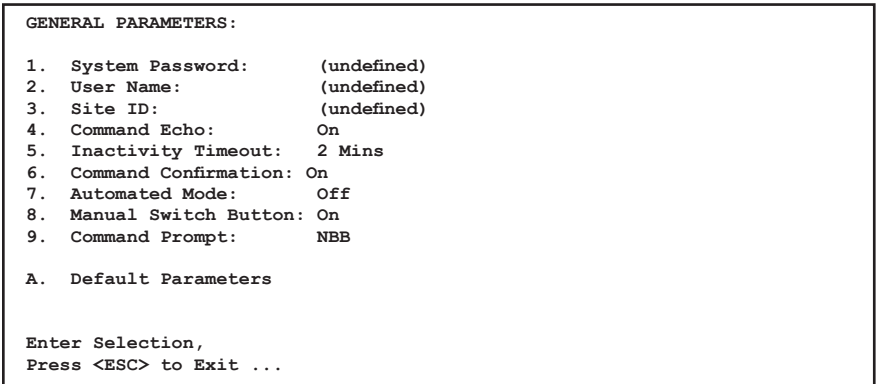

Figure 5.4: General Parameters Menu - Text Interface
- **Text Interface:** Type **/G** and press [**Enter**]. The General Parameters Menu will be displayed as shown in Figure 5.4.